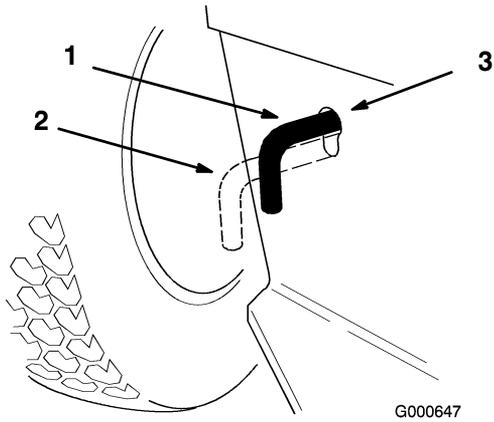

Figure 27
2. Move the drive control rod to the push position. This disengages the drive system and allows the wheels to turn freely (Figure 27).
Move the drive control rod to the operate position (Figure 27).